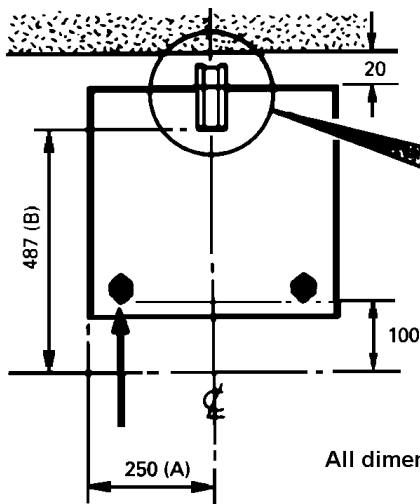
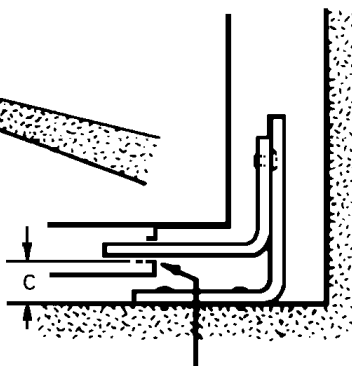

Fig.2a
Fig.2b
2. Mark off 250mm from the left hand side of the appliance as shown in (Dimension 'A'), Fig 2a. This is the centre line of the fixing bracket.
3. Draw a line 100mm from the front edge of the levelling feet (see Fig 2a) and remove appliance from its position. Mark off dimension 'B' (see Fig 2a) back from this line on the centre line of the bracket to locate the front edge of the lower bracket. Fix lower bracket (with two fixing holes) to the floor then measure the height from floor level to engagement edge on back of appliance, dimension 'C' of Fig. 2b).
- Reposition appliance and check that top bracket engages into appliance back as shown in Fig. 2b.